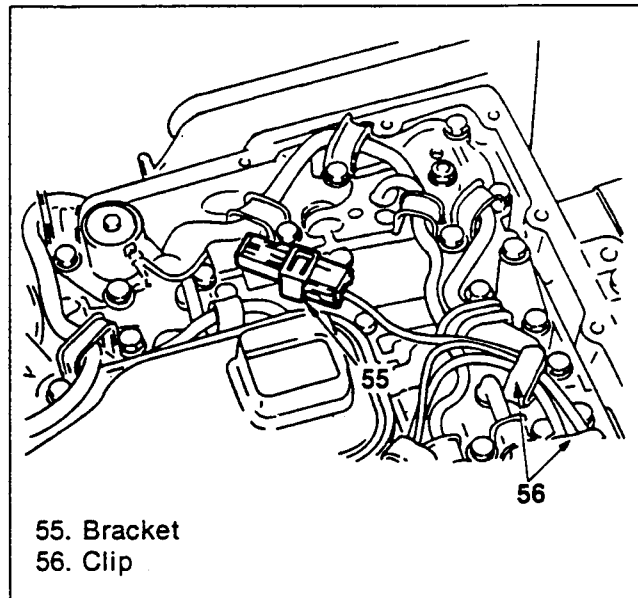

Figure 297. Terminal Clips Installation
7. Fasten the harness with clips (figure 297).